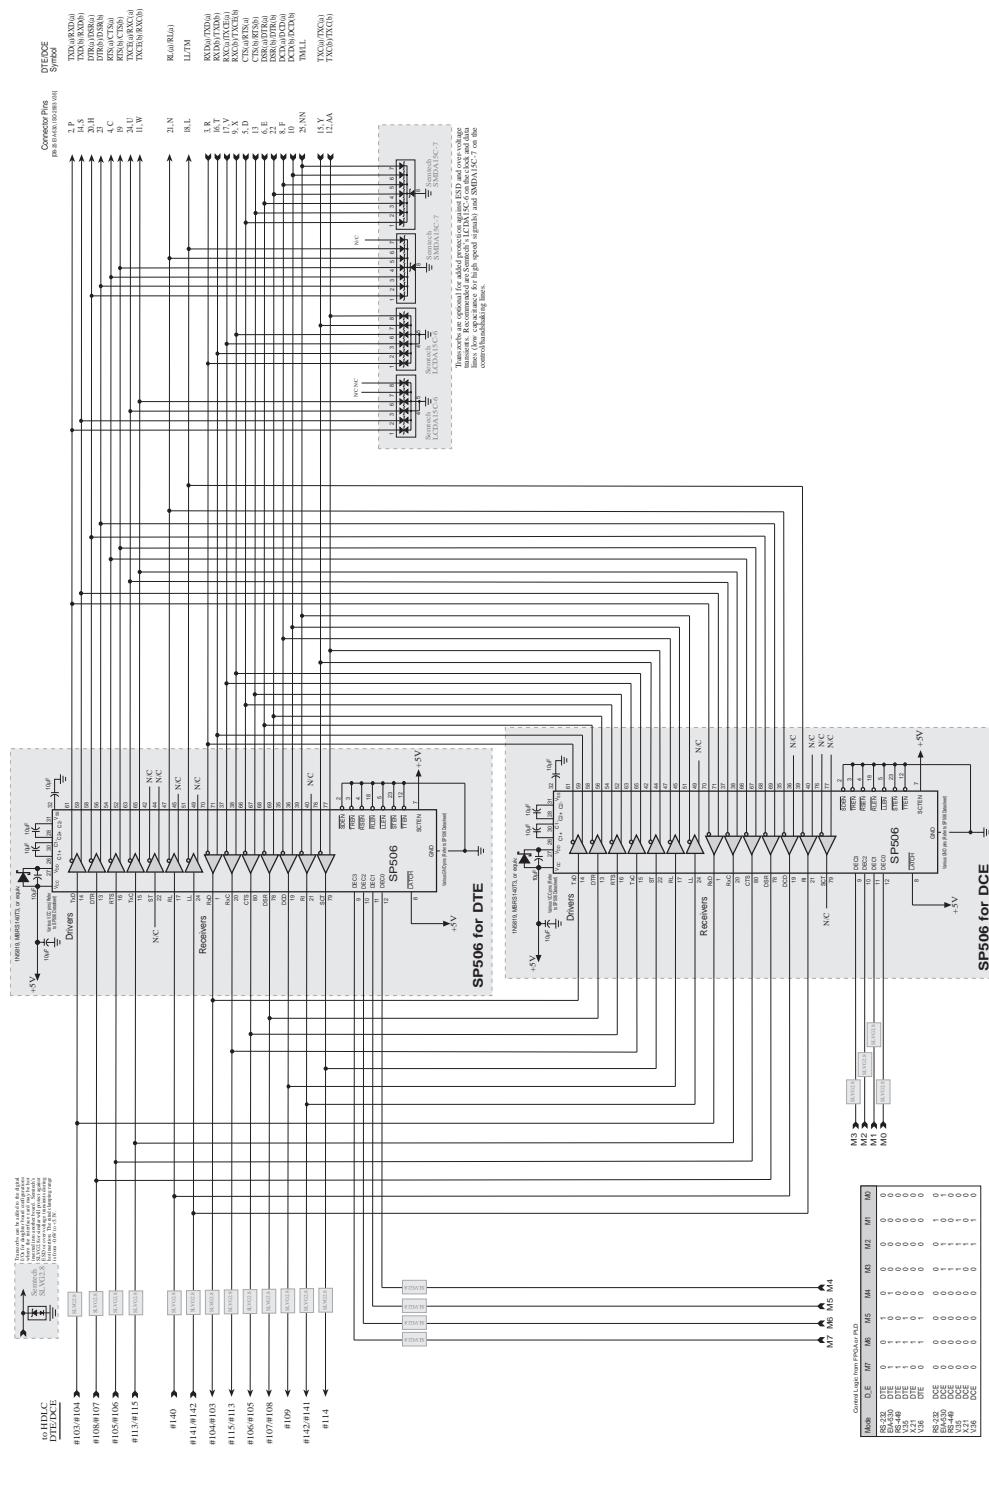

Figure 6. Complete DTE/DCE Programmable Serial Port w/o Crossover Cables
The **SP505**, **SP506** and **SP507** can be easily designed to support this type of configuration. *Figure 6* shows a typical circuit illustrating two **SP506** devices connected in a half-duplex configuration. The top circuit is dedicated to DTE and the bottom **SP506** is dedicated to DCE. Note that only one device is active at any given time. For DTE, the decoder for the DCE device should be off (0000), and vice versa. During the shutdown or off state of the **SP506**, the driver output typically draws 100 $\mu$ A of leakage current. Even with the maximum **SP506** leakage current of 500 $\mu$ A, the receiver input impedance would only change by 500 $\Omega$ . This is important for RS-232 since the input voltage range can be up to 15V and the typical RS-232 receiver input impedance is 5k $\Omega$ . For V.11 differential receivers, the maximum range is  $\pm 7$ V and typical input impedance is 10k $\Omega$ . Thus for V.28 receivers, the drivers would be effectively driving into 5k $\Omega$  in parallel with the disabled receiver with 10k $\Omega$  input impedance. The resultant impedance is 3.3k $\Omega$ . For V.11 mode, the drivers will drive into either a terminated receiver of 120 $\Omega$  or unterminated receiver at 3.9k $\Omega$ . These two values in parallel with the disabled 10k $\Omega$  receiver will yield 118 $\Omega$  and 2.8k $\Omega$ , respectively, and will not degrade the V.11 driver performance. The receiver outputs are typically at 1 $\mu$ A when disabled.
*Figure 6* also shows optional TransZorbs™ or TVS devices on the **SP506** to further protect the serial port from any ESD or overvoltage transients that may occur in any application. The **SP505**, **SP506** and **SP507** are internally rated for 8kV based on Human Body Model and 2kV Air Discharge per IEC1000-4-2. Adding transzorbs to the I/O lines will protect the serial port to over 15kV of ESD transients per IEC1000-4-2 Air Discharge and 8kV per Contact Discharge. The TVS devices on the driver inputs and receiver outputs are included for hot-insertion of the interface module/board applications.